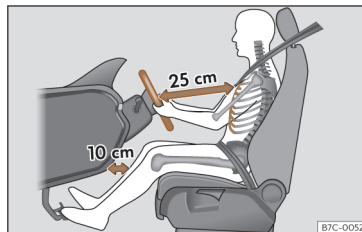

Fig. 15 The correct distance between the driver and the steering wheel must be at least 25 cm (10 inches).
- Adjust the steering wheel so that it is at a distance of at least 25 cm (10 inches) from the sternum >>> Fig. 15 and you can hold it with both hands on the sides, on the outside, with your arms slightly flexed.